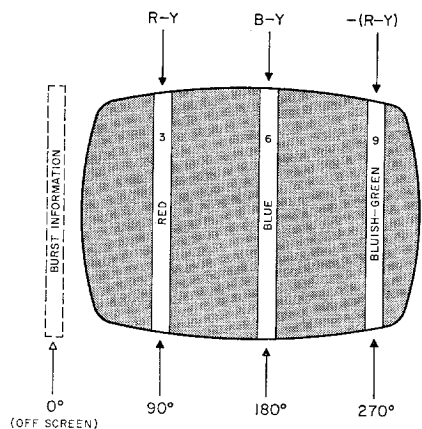

Figure 4. R-Y, B-Y, $-(R-Y)$
Step 4. Adjust the receiver's hue control to display a red, blue and bluish green bar in this order from left to right (See Fig. 4). If this arrangement cannot be obtained with any setting of the hue control, then internal adjustment of the hue range coil is necessary.